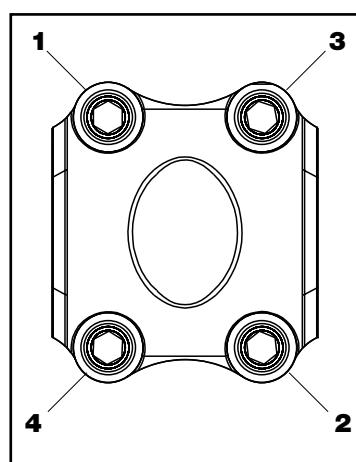
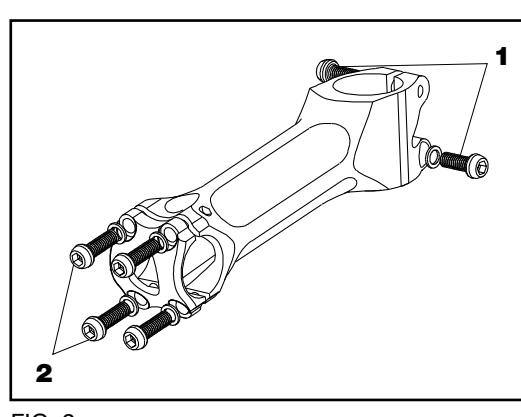

FIG. 1
FIG. 2
- Using the 5mm Allen wrench install the two rear clamp M6 socket cap bolts through the M6 flat washers (#1 in Figure 2) and into the threading into the rear clamp. Tighten to a torque of 80in-lbs (9.04 Nm) for each bolt.
- Install the handlebar using the removable front stem cap. Using the 5mm Allen wrench install the four front clamp M6 socket cap bolts through the M6 flat washers (#2 in Figure 2), the front stem cap, and into the threading on the front clamp. Follow the sequence shown in Figure 1 and first tighten these four bolts to a torque of 60 in-lbs (6.77 Nm) for each bolt. Then re-tighten these same four bolts, following the same tightening sequence, to a final torque of 80in-lbs (9.04Nm).